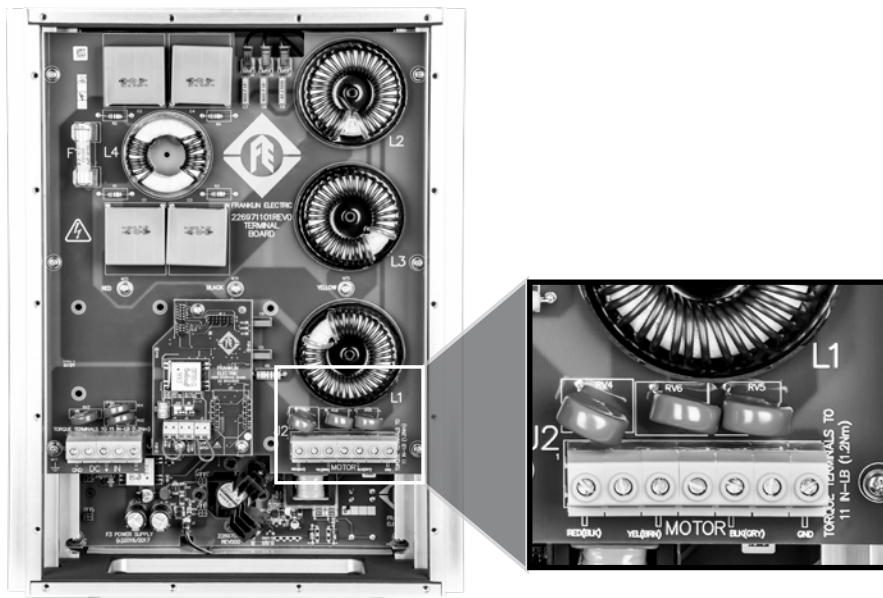

Figure 6: Motor Wiring Connection
1. Connect the cables from the Pump/Motor Assembly to the Terminal Block labeled “MOTOR” and marked BLK, GND, RED, and YEL (Figure 6). Torque specification: 12 in-lbs / 1.35 Nm (Use copper conductors only. Rated 75 °C minimum).